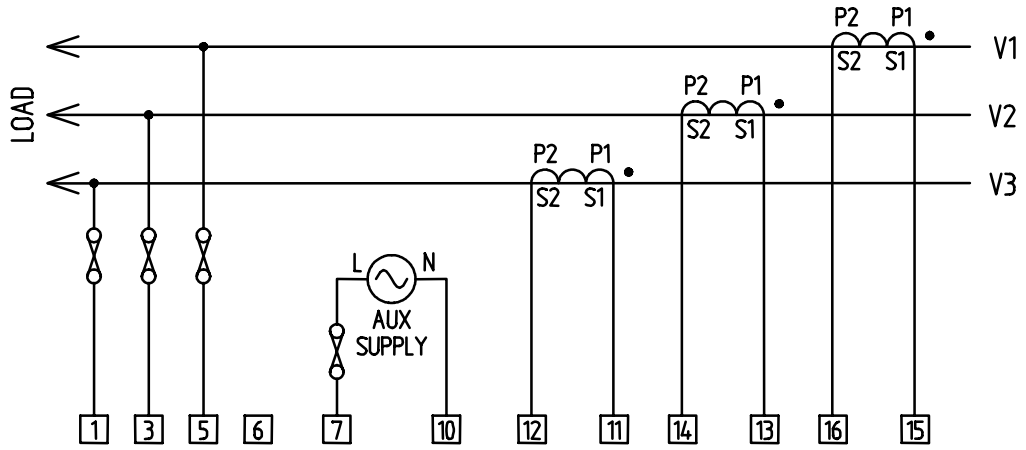

Figure 4-3 3-Phase 3-Wire 3CTs
**NOTE:** It is possible to use 3 current transformers in conjunction with potential transformers. Refer to Figure 4-3 for details of CT connection.